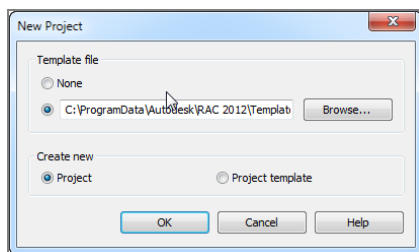

FIGURE 1.57: A new Revit model is based on an .rte template file.
2. In the resulting dialog, shown in Figure 1.57, click the Browse button.